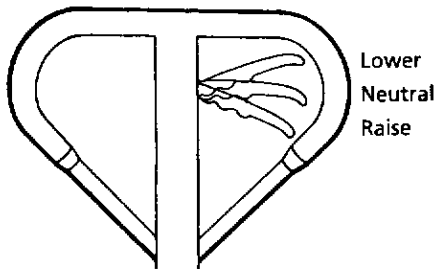

Figure 5 - Control Lever
6. Position Up/Down control in LOWER or "up" position (See Figure 5). Pump handle several times to release air from pump.
The three position control lever is operated as follows: (See Figure 5)